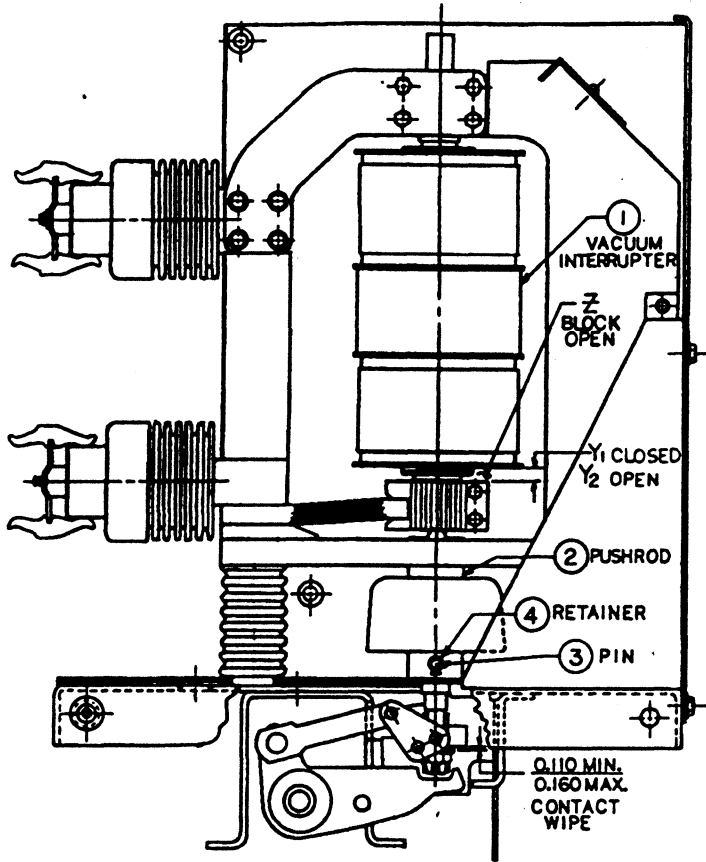

Fig. 5 — Contact Pressure
3. Contact wipe (contact pressure) (See Fig. 5). The contact air gap and contact wipe is set at the factory by setting the vertical position of the interrupter (1) and the vertical position of the pushrod (2). The parts should not be repositioned in the field unless a pushrod change is required to correct contact sequence as described elsewhere. Contact erosion and wear in mechanical parts will cause a reduction in contact wipe over the life of the breaker. For a check on contact erosion, see section "Erosion Indicator Check".
4. Contact Air Gap (See Fig. 5). The contact air gap is set at the factory at the nominal dimension of .35. This value will normally increase as the contacts erode. A check of the contact air gap checks that the breaker does open
5. Contact sequence (See Fig. 5). All three poles should touch within 2 millisecond at normal closing speeds. An oscilloscope, oscillograph or other timing method may be used to establish the 2 millisecond timing.